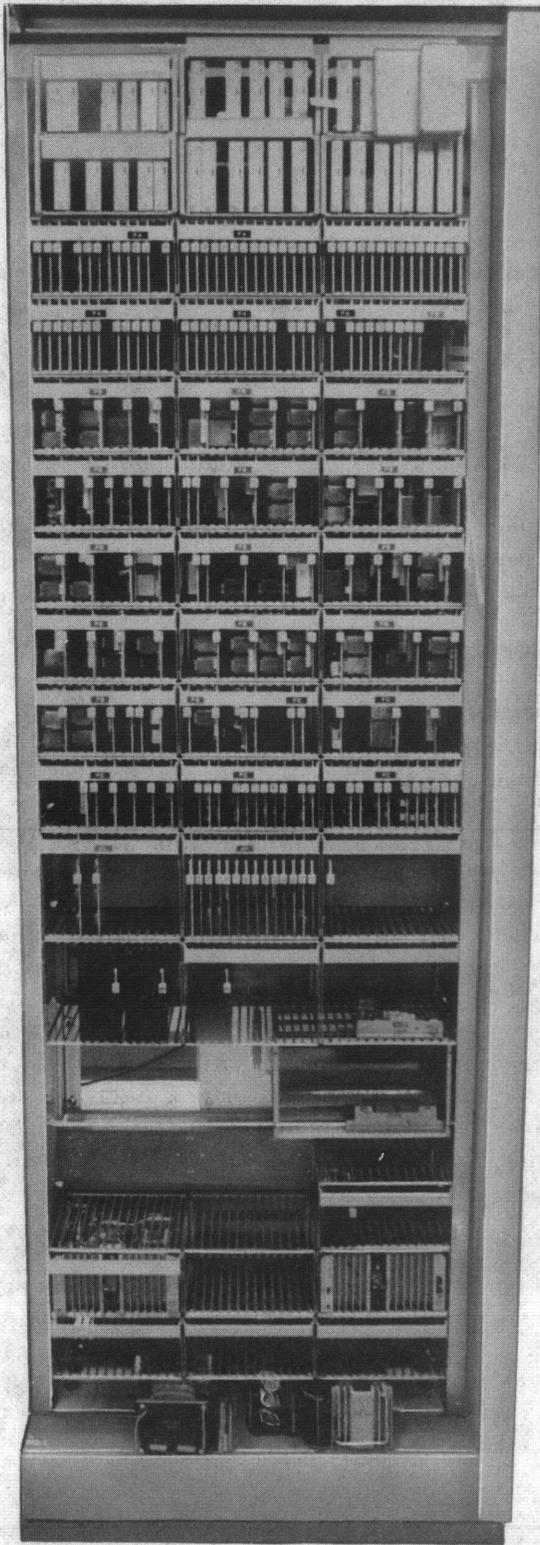

Fig. 1—Circuit Pack Storage Frame No. 3 Electronic Switching System
2.02 The circuit pack storage frame (Fig. 1) is preassembled with individual mounting plates (storage units) equipped with the spare circuit packs, pulsers, power converters, data set, and a minirecorder. It is shipped to the site intact to provide protection during transit and eliminate the quantity of shipping containers.